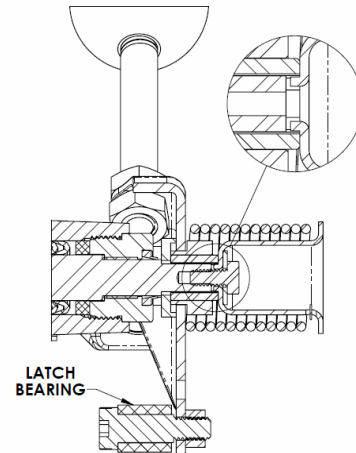

FIGURE 1: INSTALLATION OF SPRING RETAINER
16. **For ME980-10 and ME980-16:** Apply loctite #271 to threads of Body [1], place Flange [2] on Body [1], and install (4) Flange Bolts [7] into Body and tighten in "star" pattern and confirm that all screws are tightened.
- For ME980-24:** Apply Loctite #271 to threads of Body [1], place Flange [2] on Body [1], and install (8) Flange Bolts [7] into Body [1] and tighten in "star" pattern and confirm that all screws are tightened.
19. With Clapper closed, Install Handle Assembly [21] onto Stem [20A] with Latch Bearing facing down (Figure 1).
22. Install Spring Retainer [12] into Thermal Link [16] as shown (Figure 1) with Handle Spring [13] arm oriented as shown (Figure 2).